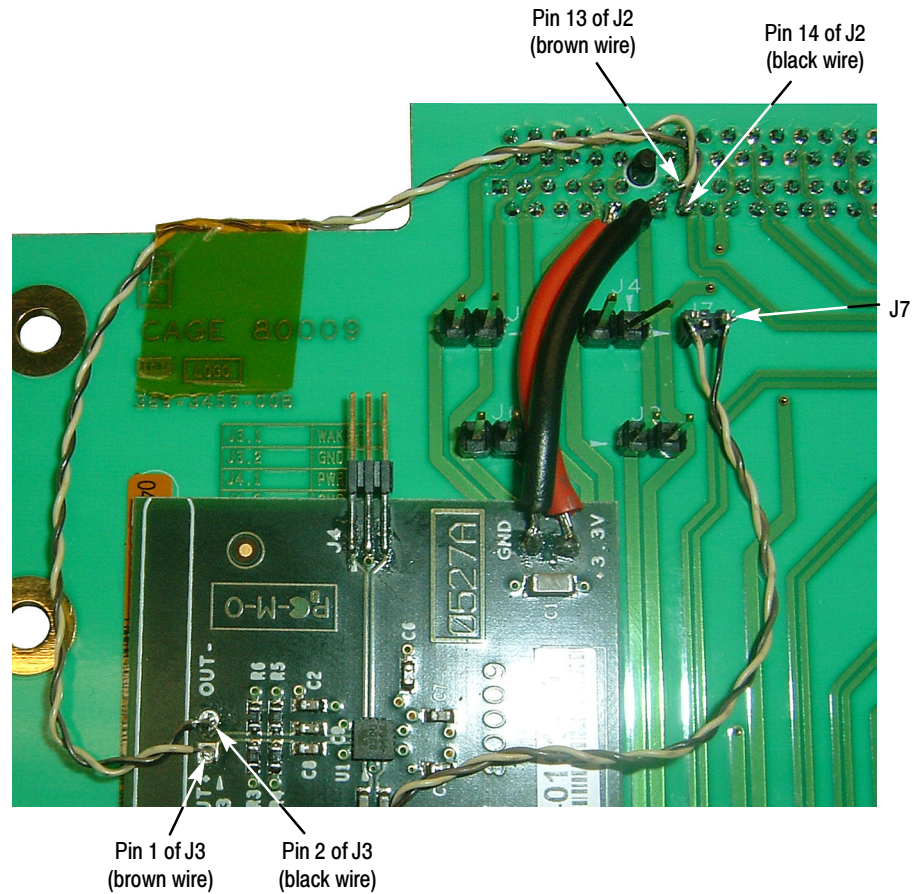

Figure 9: Attach twisted-wire pairs to Slot Adapter board
9. Solder the brown twisted-pair wire from pin 13 of the J2 connector on the Slot Adapter board to pin 1 of the J3 connector on the Interposer Fix board. See Figure 9.
NOTE. After soldering, clip any excess J7 connector pins. See Figure 9.